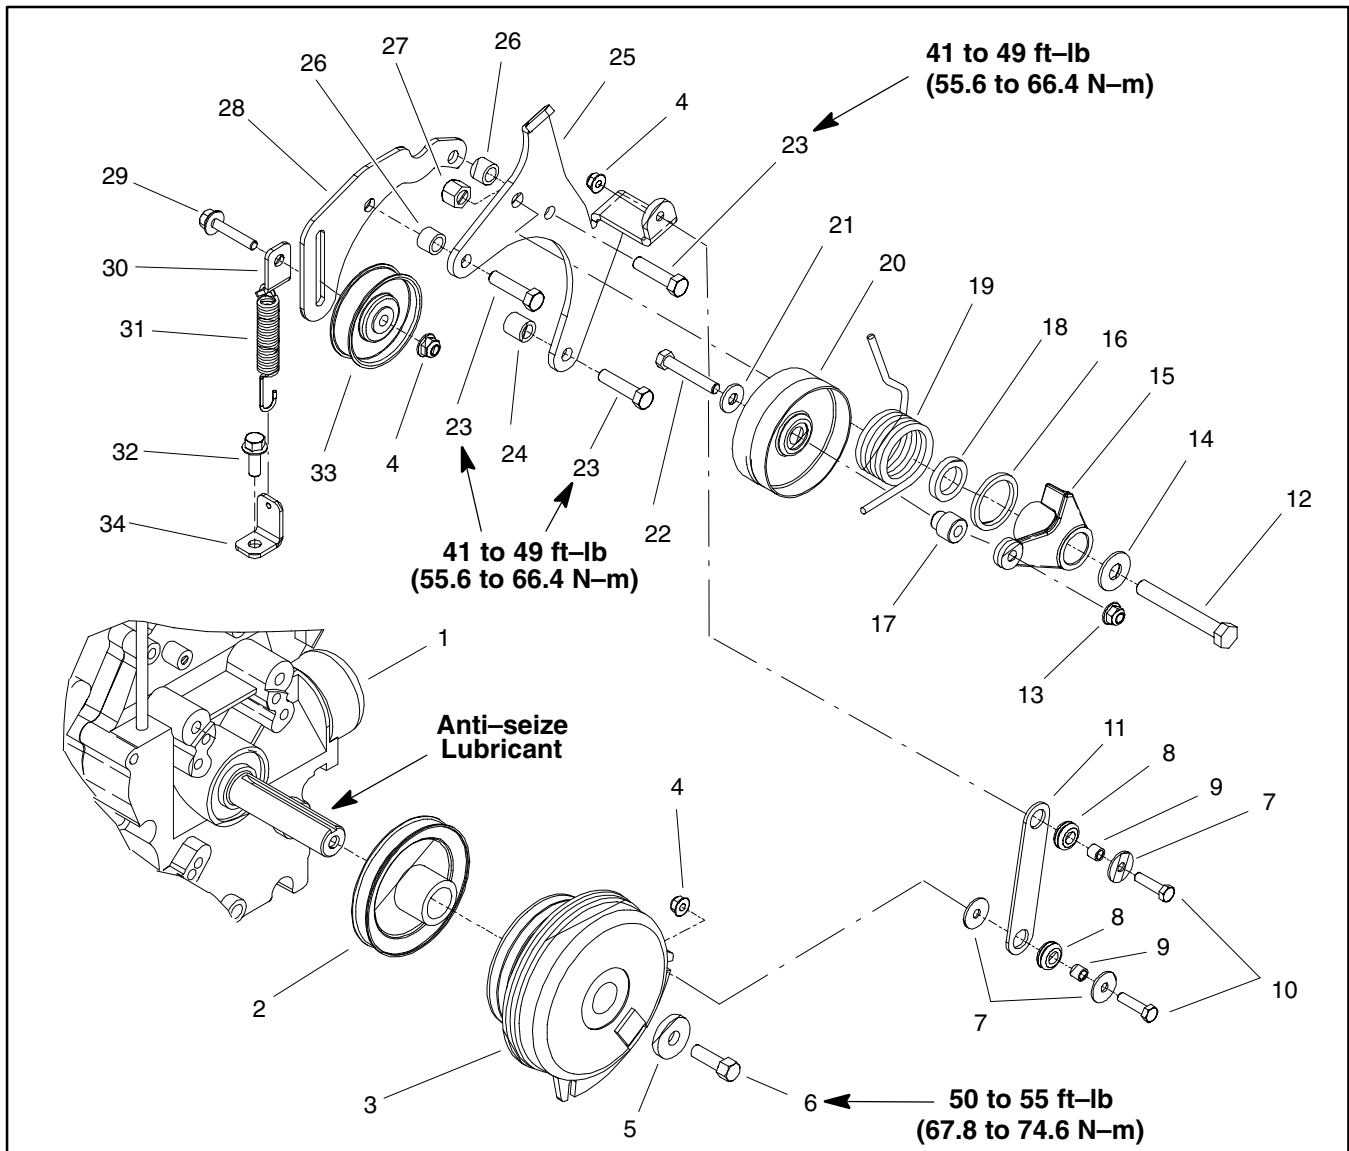

Figure 12
Removal (Fig. 12)
1. Release tension on idler torsion spring (item 19):
2. Remove belt tensioner components from engine as needed using Figure 12 as a guide.
Installation (Fig. 12)
1. Install belt tensioner components to engine using Figure 12 as a guide.
3. Apply tension to idler torsion spring (item 19):